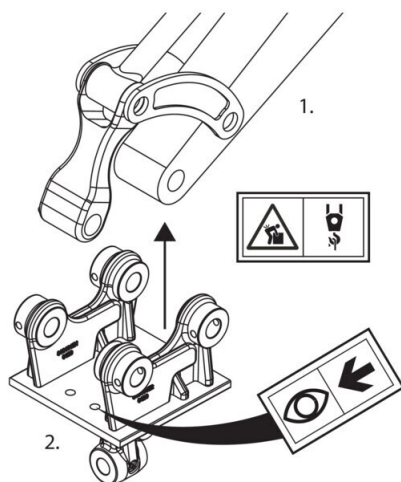

Fig. 11
Using suitable lifting equipment raise item 2., in the direction shown, over item 1. **Fig.11** Align holes and temporarily secure.